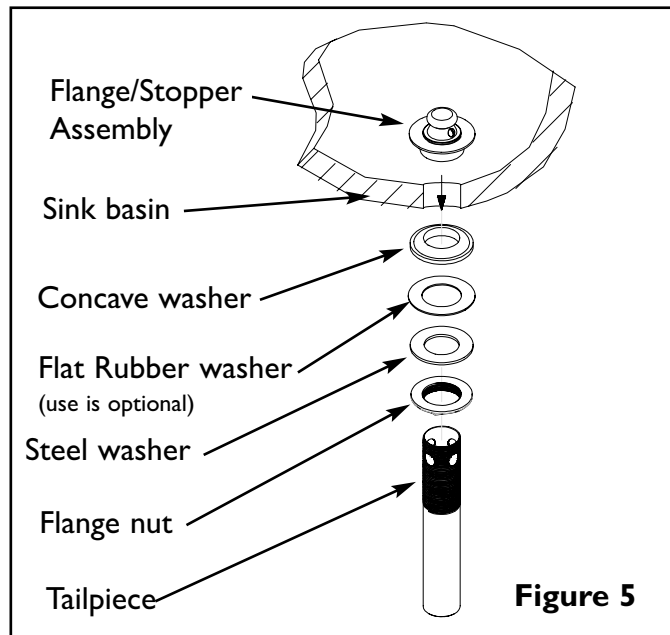

Figure 5
7. Place Flange Nut and washers on Tailpiece. Apply thread sealant to upper threads of Tailpiece. Insert through drain hole from underside of sink basin. Thread Tailpiece to Flange/Stopper assembly. Note: Recommended to add a clear silicone adhesive between Flange and Sink basin to seal. Attach tailpiece to p-trap drain (not included). See Fig. 5